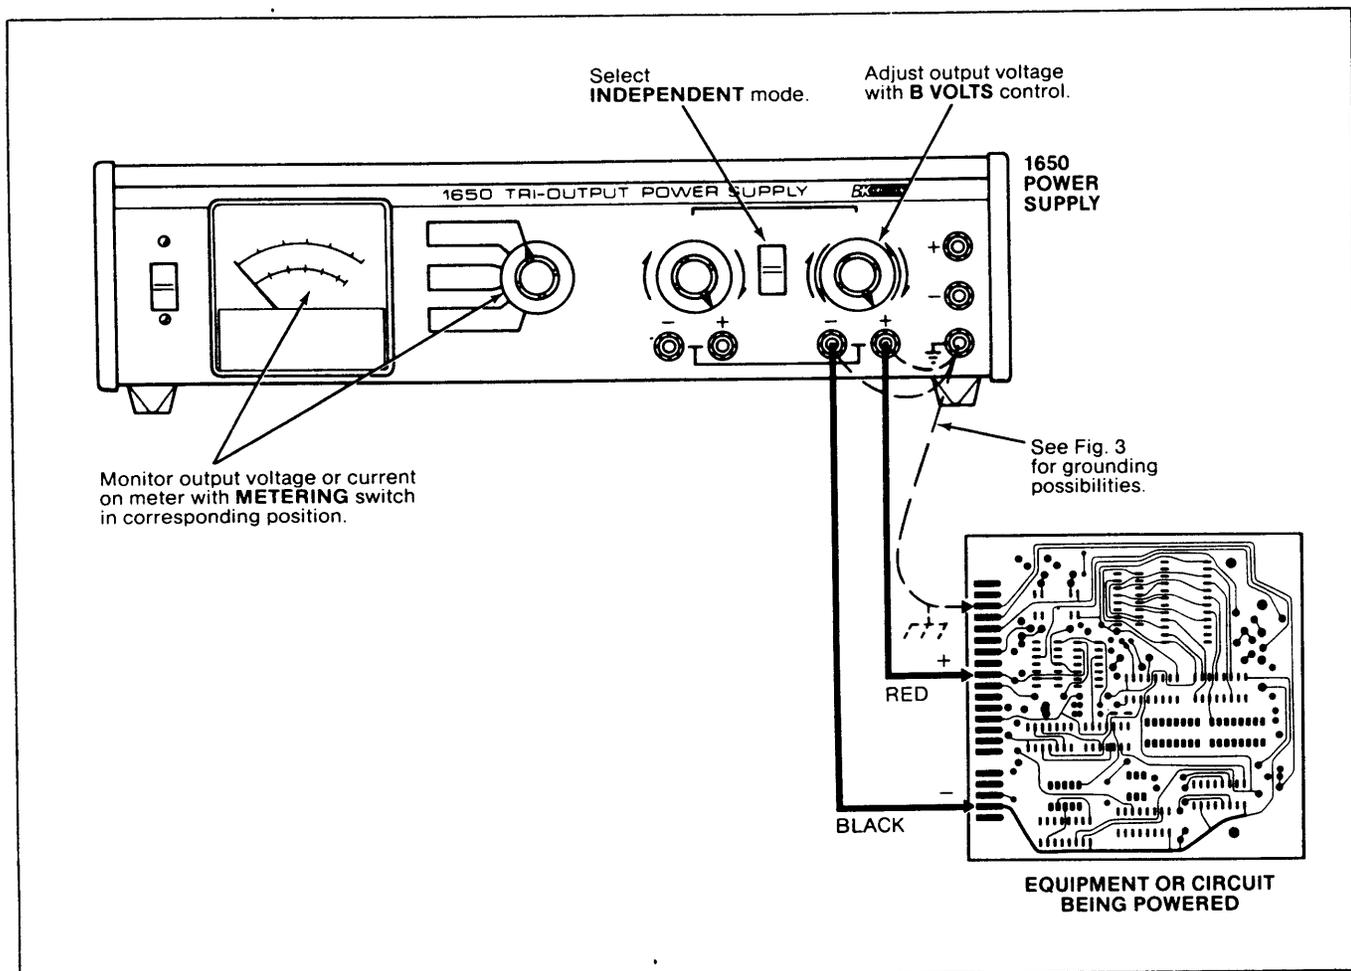

Fig. 7. Typical use of B supply.
The B supply also provides a variable 0-to-25 volt DC output at up to 0.5 amp and may be used instead of the A supply if desired as shown in Fig. 7. Procedures are very similar to those for using the A supply.
3. Connect the positive and negative polarity of the circuit being powered to the (+) and (-) terminals of the B supply, respectively, as shown in Fig. 7.